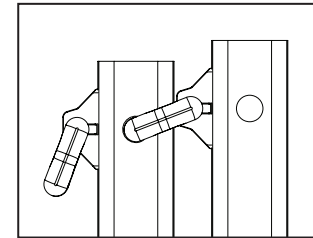

Figure 6
- 4) Lower the outer ladder section with the disengaged "J" locks (See Figure 6) while spreading the two sections apart to form the second trestle required for the scaffold position. See Figure 7.